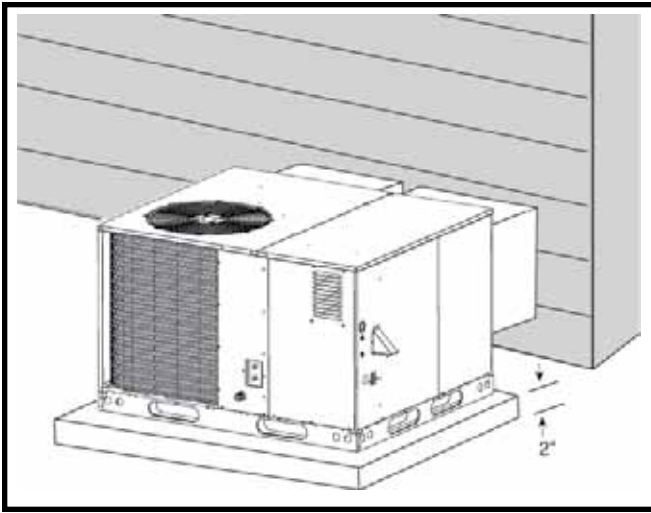

Figure 4. Ground Level Installation
- A suitable mounting pad (Figure 4, page 12) must be provided and be separate from the building foundation. The pad must be level to ensure proper condensate disposal and strong enough to support the unit's weight. The slab height must be a minimum of 2" (5cm) above grade and with adequate drainage.